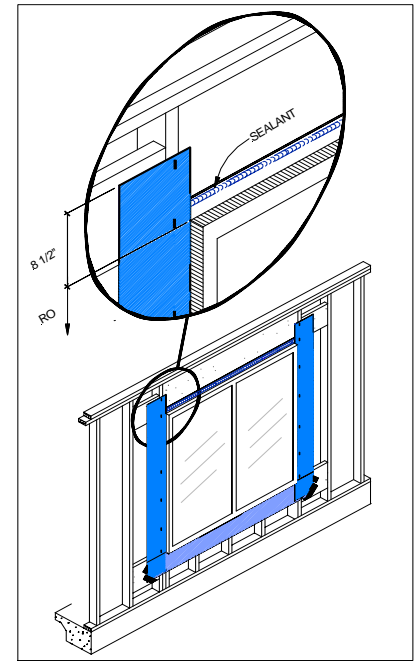
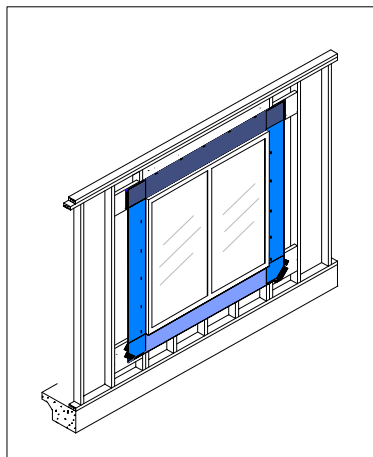

Figure 9.1
Figure 9.2
9. Next, apply a 3/8” continuous bead of sealant over the exposed nailing fin at the head of the window. **See Figure 9.1.** Apply the head flashing by bedding it into the sealant applied, overlapping it 1” on each side of the jamb flashing, and secure it with fasteners to the sheathing. **See Figure 9.2**